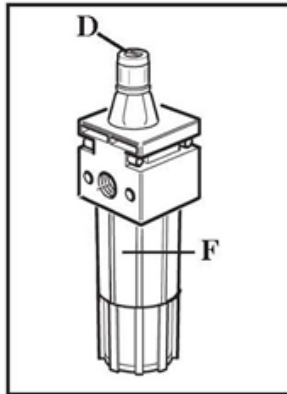

Fig. 5-1
- Check the oil level in the oil/water separator. If the level is low, unscrew cup F before refilling. Use only oils that comply with ISO HG, viscosity ISO VG32, e.g.: ESSO Febis K32, MOBIL Vacouline 1405, KLUBER 32 (Fig. 5-1).
- Operate the bead breaker pedal 3 to 4 times to check that oil is being injected into cup F. If not, adjust screw D (fig. 5-1).